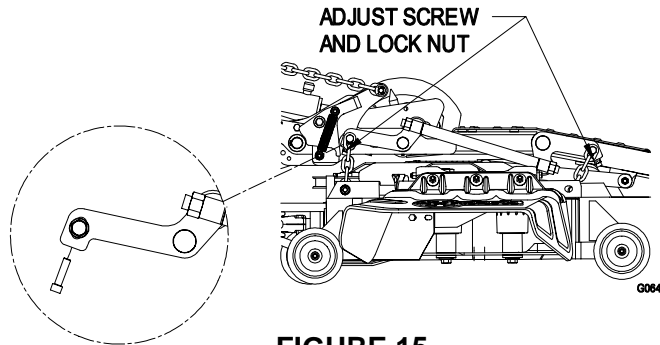

FIGURE 15
- f) If adjustments are necessary, four socket head 5/16-18 x 1-1/4 screws have been provided in the literature bag. Install these screws into the deck lift arms until they touch the hex head deck chain screws. Loosen the top chain screws in slots in the deck lift arms (See Figure 15). Turn the socket head screws to move the deck chain screws up and down to correct the cut heights measured above.